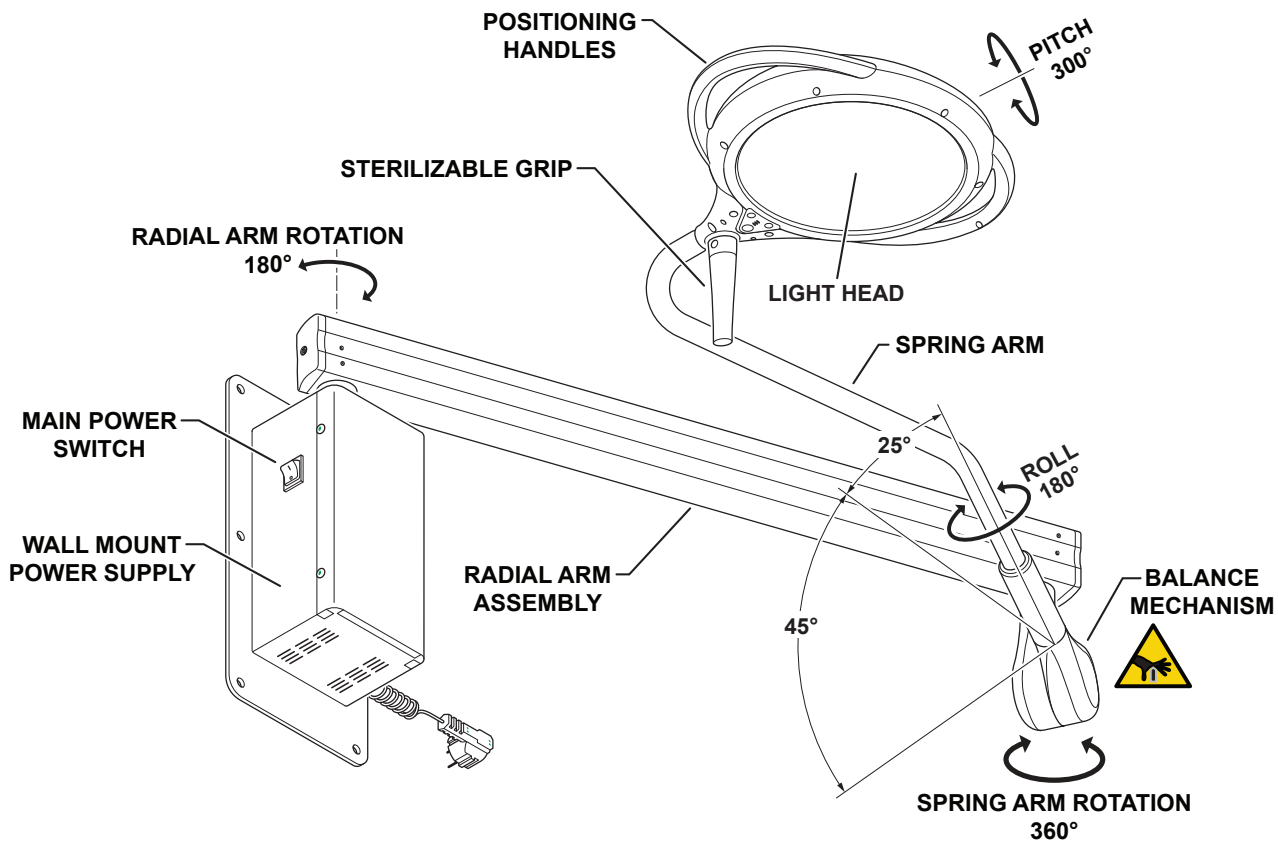

Figure 4. DE12W Light Fixture
This fixture is wall mounted and provides the radial arm assembly with 180° rotation capability (Figure 4).
2. Position the lighthead by grasping the sterilizable grip or positioning handles and moving the lighthead to the desired position (Figure 4).